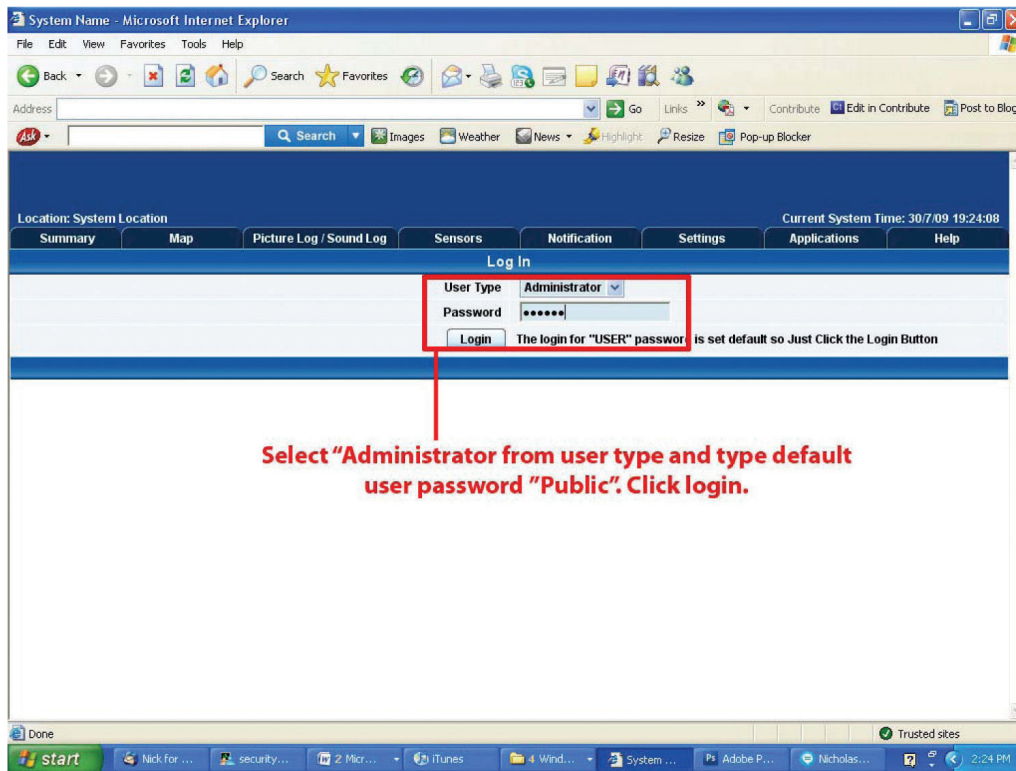

Figure 3-2. User type/password screen.
3. After you press the Enter key in Step 2, Figure 3-2 appears. The default password for Admin is “public.” Change the password to make your unit secure.